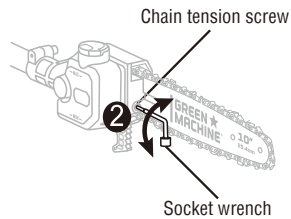

Fig.8A
2. Loosen the sprocket cover screw. (Fig. 8A)